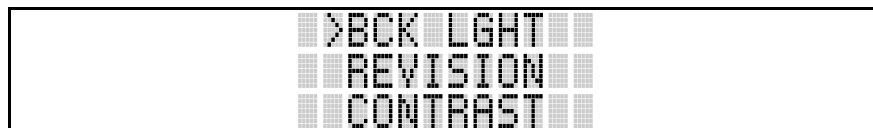

Figure 13: Backlight Menu Item
2. PRESS:  or  until the display shows (see Figure 13):